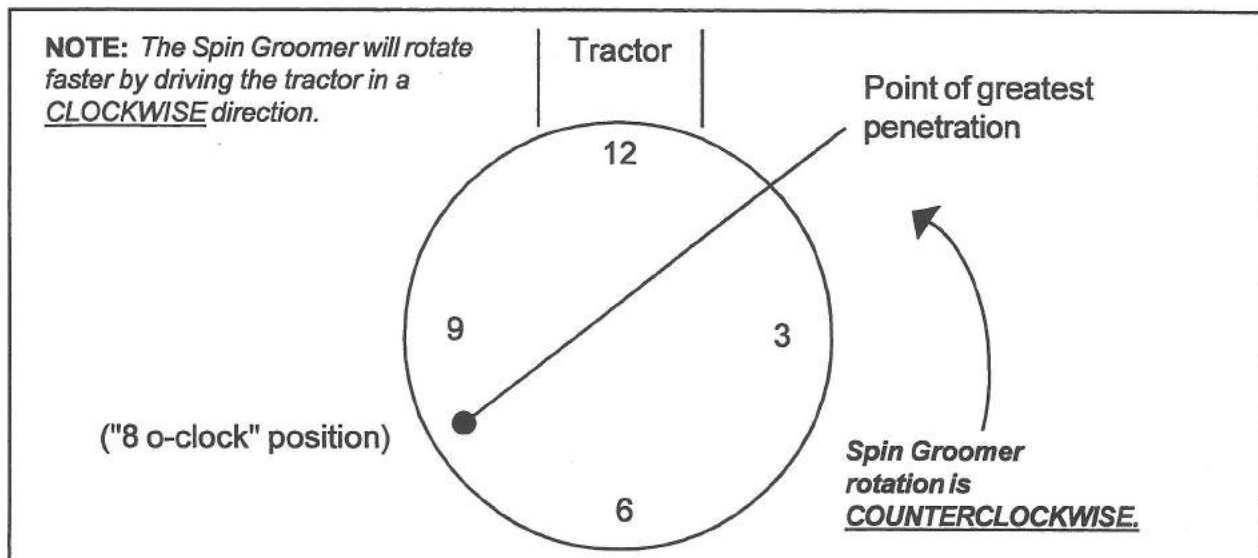

Figure 3A - Adjusting for Point of Greatest Penetration
2. Raise the spin groomer with the tractor three-point hitch so that the front part of the grooming ring is approximately two inches off the ground. (Refer to Figure 3A; the front part of the grooming ring is that portion at the "12 o'clock" position.)
6. Now *lengthen the top lift arm* of the tractor three-point hitch so that the **lowest point of the grooming ring is at "8 o'clock"** as shown in Figure 3A. *This is the recommended point of greatest penetration.*
2. Slowly lower the spin groomer until the grooming ring rests on the ground in the "8 o'clock" position (refer to Figure 3A). As the tractor moves forward and achieves the recommended operating speed (not to exceed 8 mph), the spin groomer will rotate *counterclockwise* and begin loosening and grooming the surface.
1. **To achieve more aggressive grooming (e.g. for hardened, compact surfaces), shorten the lower righthand linkage.** You may also want to shift the point of greatest penetration towards the "9 o'clock" position when grooming very hard, compact surfaces. *Shortening the top lift arm* of the three-point hitch will move the grooming ring's deepest penetration toward the "9 o'clock" position (refer to Figure 3A).